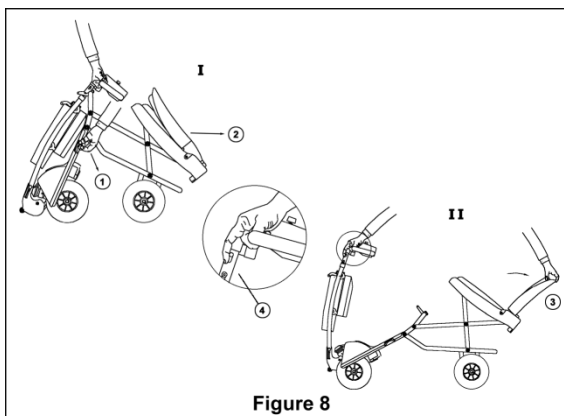

Figure 8
Step 1: Pull on the frame lock pin ring (Fig. 8/1) to release platform and rest front wheels on floor.
Step 2: Pull the seat backrest and lift it upright. (Fig. 8/2)
Step 3: Grasp top of seat backrest (Fig. 8/3) and pull column lock triggers (Fig. 8/4) to release column from platform. Pull outwards to unfold *EasyTravel* until